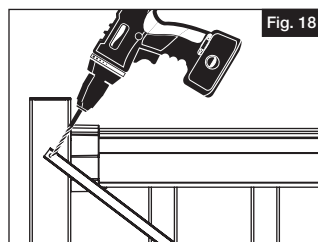

Fig. 18
- Attach brace to uprights. Pre-drill one end of brace with a $\frac{1}{8}$ " drill bit through upright and aluminum inside of upright, then anchor the brace to the upright with #8 x $\frac{3}{4}$ " screw. Repeat for other end of brace (Fig. 18).